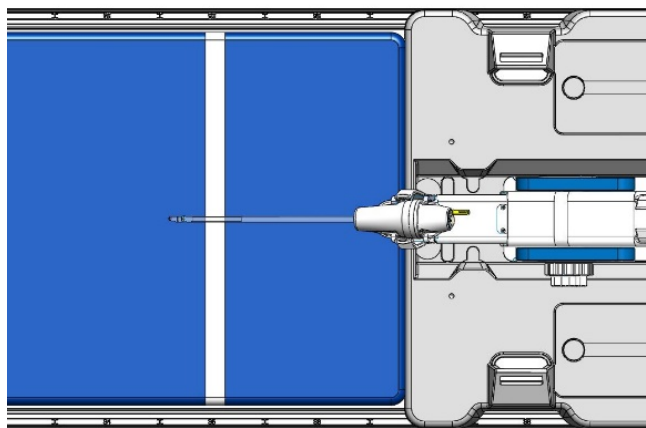

Figure 20: Centering and aligning the coils with the prostate
2. Position the patient on the MRI bed in a head-first supine position so that their sagittal midline is centered from left to right on the MRI table, and their prostate is centered within the treatable area (*Figure 20 [Your configuration might not match exactly as shown]*).